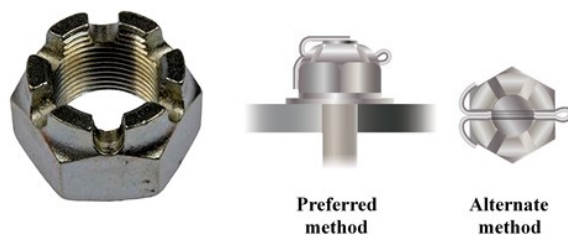

Figure 1-2. Castellated nut and cotter pin methods.
Castellated nuts provide an extra fail-safe feature for critical uses. They are commonly used in joints, bearings, bushings, cranks, linkages, and in locations where the bolt serves as an axle or axis for the rotation of another part. For the fail-safe measure to be effective, a cotter pin or safety wire is required for them to be secured. (**NOTE:** Even self-locking castellated nuts need to have a cotter pin.) Figure 1-2 shows the methods for installing a cotter pin as described in Technical Order (TO) 1-1A-8, *Structural Hardware*. Never reuse a cotter pin, no matter how neatly you removed the old one.